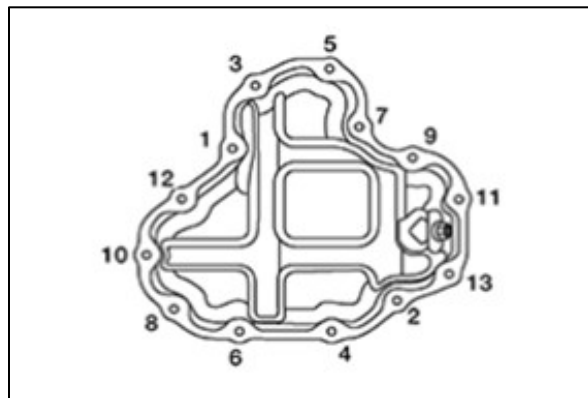

Figure 7
- Torque the lower engine oil pan bolts to specification using the sequence in Figure 7.